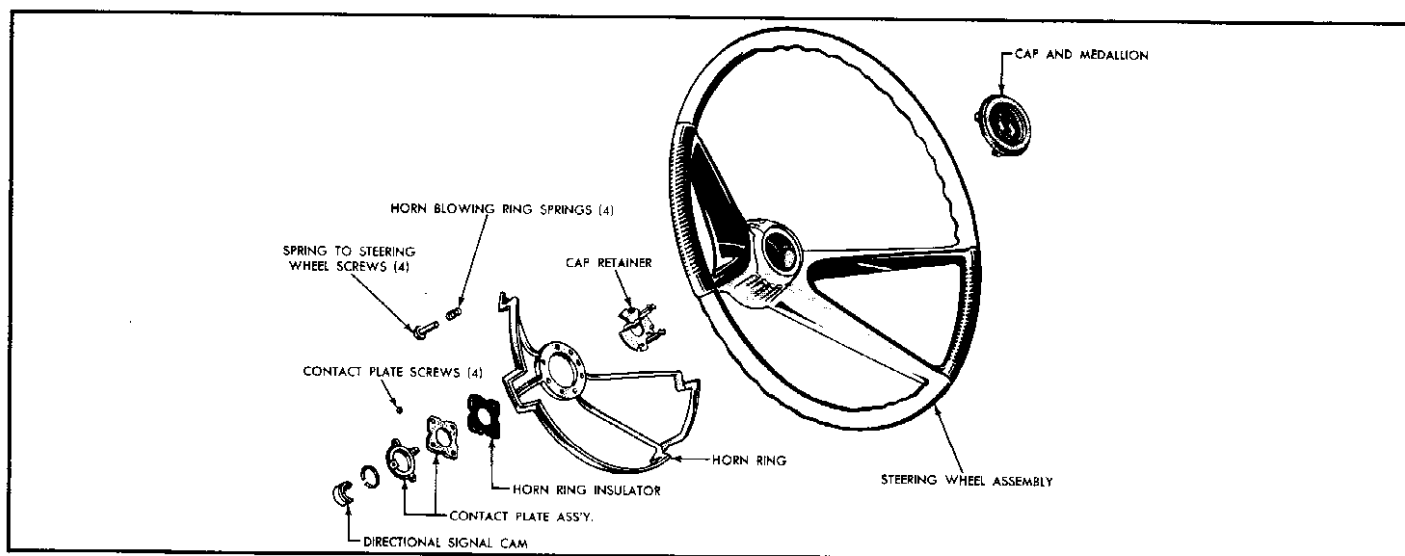

Fig. 11-18—Steering Wheel, Horn Ring and Related Parts
8. All components of the horn blowing assembly are now exposed for inspection and service. See figure 11-18.
1. Assemble the horn blowing contact components to the steering wheel in the reverse order of removal. See figure 11-18.